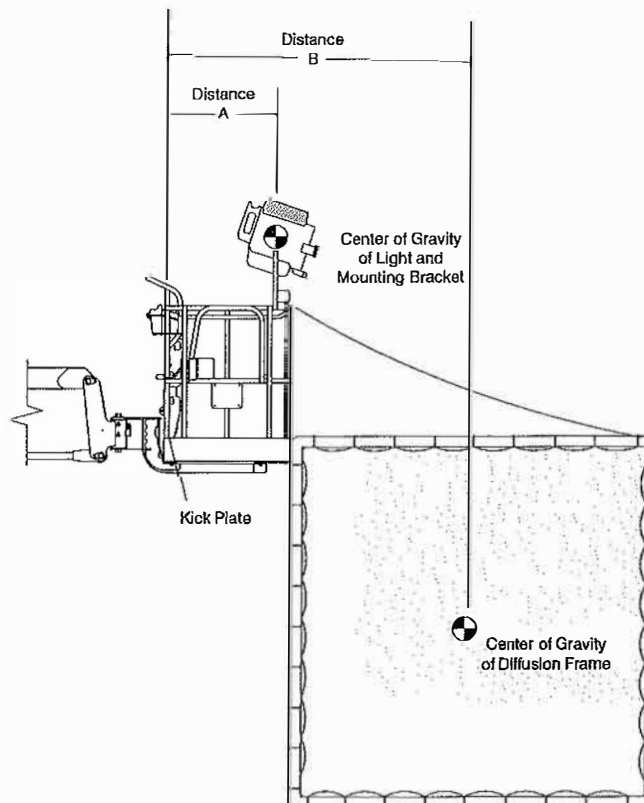

Figure 2-1. Figuring Capacity Reduction
2. Subtract the load applied to the platform by the attachment of additional movie production equipment (as shown in the following illustration) by using Table 2-1, Platform Capacity Reduction Chart - 400S, 600S, 800S, 450A, 600A, 800A or Table 2-2, Platform Capacity Reduction Chart - 460SJ, 660SJ, 860SJ, 450AJ, 600AJ, 800AJ, 1200SJP, 1350SJP as applicable. (Refer to Figure 2-1., Figuring Capacity Reduction for attachment details.
**EXAMPLE:** This example will use Table 2-1 and Figure 2-1. Assume the weight of the lighting equipment, cables, and mounting hardware is 83 pounds. The distance from the kickplate to the CG (Center of Gravity) of the equipment (Distance A or Distance B) is 33 inches. The weight of the equipment must be rounded up to the next highest figure in the left column, which is 100 pounds and the distance to the kickplate must be rounded up to the next highest figure at the top of the chart which is 36 inches. Using these figures on the chart, we see that the Rated Load must be reduced by 161 pounds. On a platform with 500 pounds capacity, the new rated capacity would be 500 pounds - 161 pounds = 339 pounds.